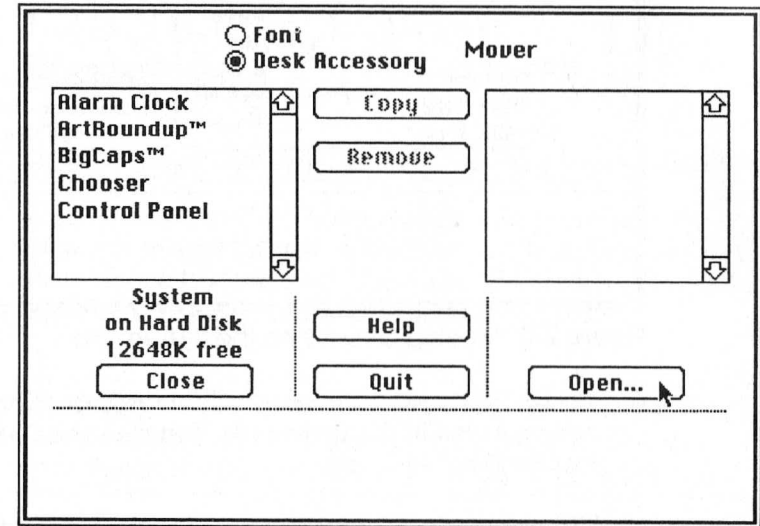

Figure 2-2 Clicking Font/DA Mover's Open button
- 3 Click the *Open...* button (bottom right of figure 2-2) to open a font or desk accessory file.